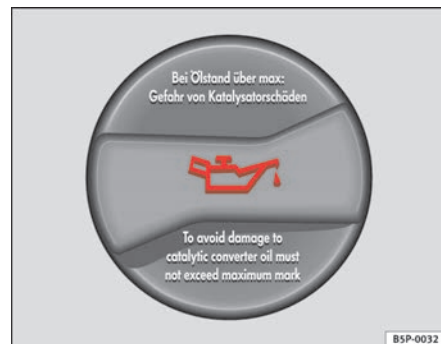

Fig. 164 In the engine compartment: Engine oil filler cap
- Unscrew cap from oil filler opening ⇒ **fig. 164**.